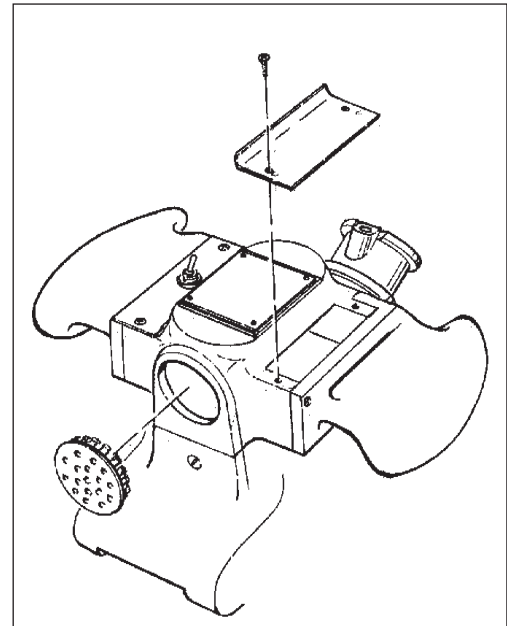
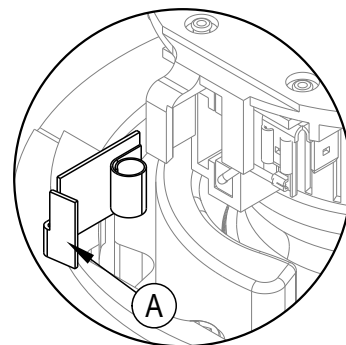

Figure 7
Figure 8
Inspect all four brushes every 6 months or 250 hours. Access to the brushes is gained through the front and back motor vent plugs and under both motor covers (figure 7). Press tab (A) on spring clip assembly in, rotate, then remove (figure 8). Use needlenose pliers to disconnect the shunt wire. If any brush has worn to 3/8" in length or shorter, replace the entire set.